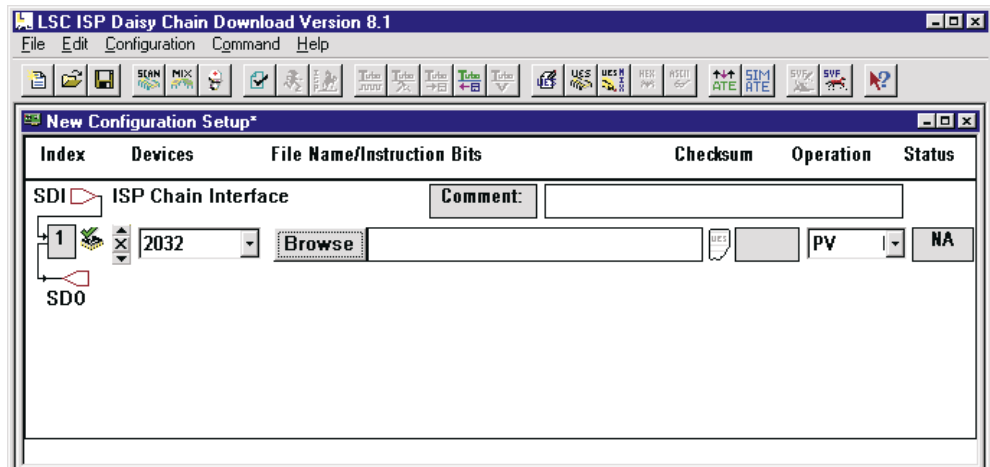

Figure 3. Browse for the JEDEC update file. When you select the file, the path will appear in the text box to the right of the **Browse** button.
2. In the **New Configuration Setup** window, click the **Browse** button. Search for the correct JEDEC file and see that the file path appears in the text box to the right of the **Browse** button (Figure 3).